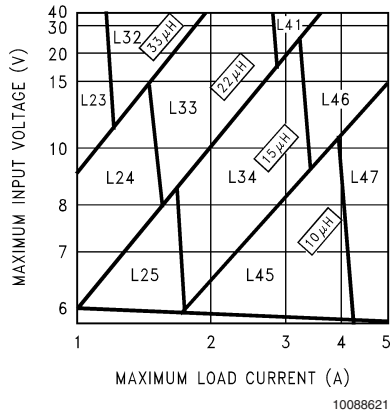
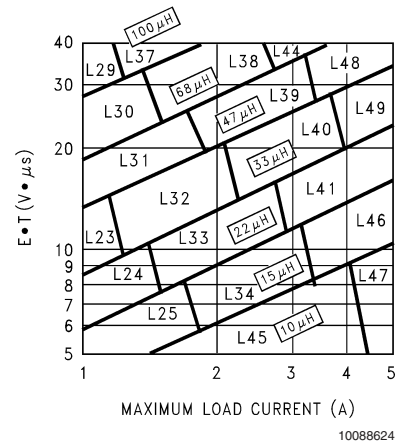

FIGURE 3. LM2678-3.3
FIGURE 6. LM2678-ADJ
Step 3: Determine the inductor required by using one of the four nomographs, *Figure 3* through *Figure 6*. Table 1 provides a specific manufacturer and part number for the inductor.
Step 5: Determine an input capacitor from Table 4 for fixed output voltage applications. Use Table 2 to find the specific capacitor type. For adjustable output circuits select a capacitor from Table 2 with a sufficient working voltage (WV) rating greater than $V_{in\ max}$, and an rms current rating greater than one-half the maximum load current (2 or more capacitors in parallel may be required).
Step 3: Use the nomograph for the 3.3V device, *Figure 3*. The intersection of the 16V horizontal line ($V_{in\ max}$) and the 4A vertical line ($I_{load\ max}$) indicates that L46, a 15 μ H inductor, is required.
Step 3: To use the nomograph for the adjustable device, *Figure 6*, requires a calculation of the inductor Volt \cdot microsecond constant ($E \cdot T$ expressed in $V \cdot \mu s$) from the following formula:
Using *Figure 6*, the intersection of $27V \cdot \mu s$ horizontally and the 3.5A vertical line ($I_{load} \max$) indicates that L48, a 47 μ H inductor, or L49, a 33 μ H inductor could be used. Either inductor will be suitable, but for this example selecting the larger inductance will result in lower ripple current.
Important Note: When using the adjustable device in low voltage applications (less than 3V output), if the nomograph, *Figure 6*, selects an inductance of 22 μ H or less, Table 6 does not provide an output capacitor solution. With these conditions the number of output capacitors required for stable operation becomes impractical. It is recommended to use either a 33 μ H or 47 μ H inductor and the output capacitors from Table 6.